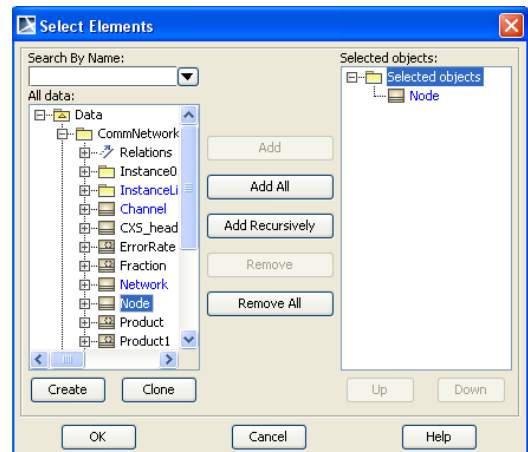

Figure 5.10b Select Elements window
- iv. Select Classifier and click Edit icon to open window in Figure 5.10b